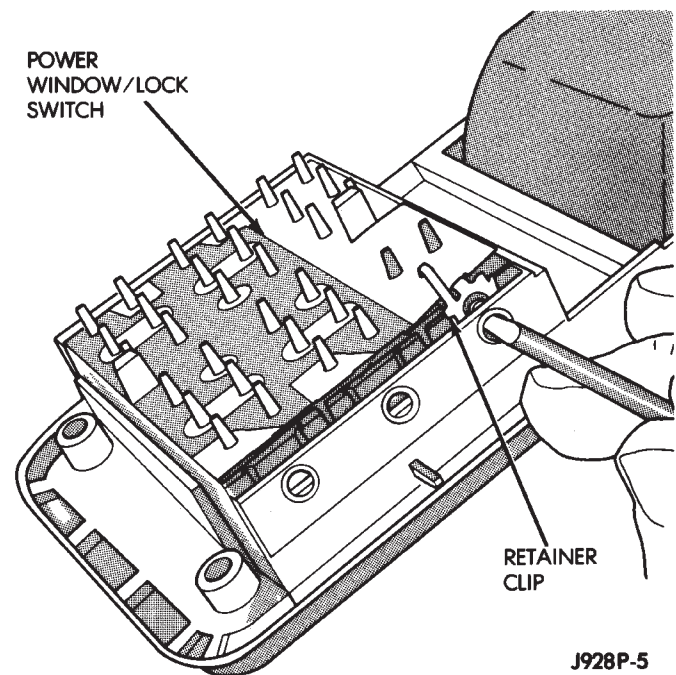

Fig. 3 Power Lock Switch Removal
(2) Disconnect the control linkage and the wire harness connector.
(3) Remove the latch release and control panel assembly.
(4) The switch is retained to the panel with clips (Fig. 3). Push in on the retainer part of the clip and pry the clips.
(5) To install switch, position switch and press in retainer clips until they snap into position.